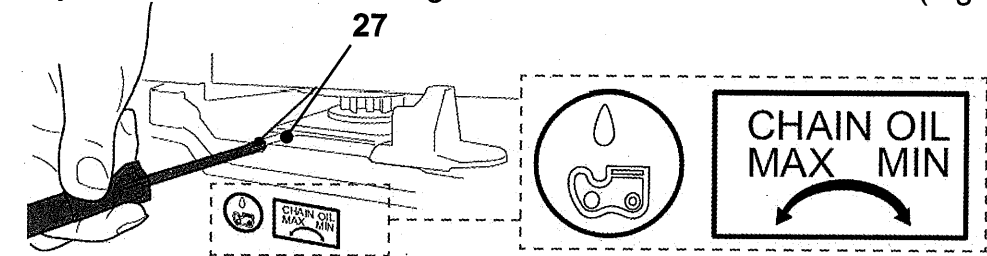

Fig. 16
3. Turn the adjustment screw (27) of the oiler on the bottom of the product to adjust the chain oil flow using a suitable slot head screwdriver (Fig. 16).